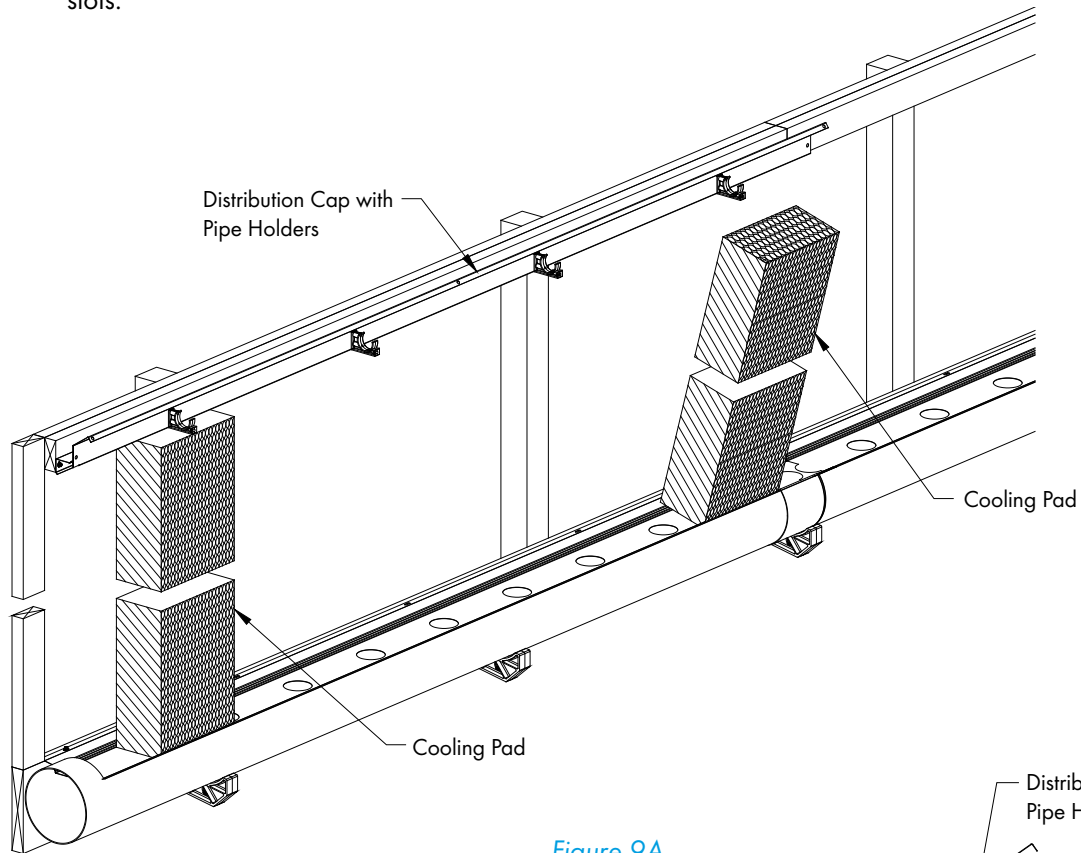

Figure 9A
After Distribution Cap is loosely secured to the Top Framing insert one piece of Cooling Pad at each end of the Distribution Cap. Use these pieces to adjust the height of the Distribution Cap. Distribution Cap should fit down tight to Cooling Pad. See Figure 9A and 9B. When the Distribution Cap is in place, make sure it is level, then tighten the (2) Polebarn Screws [E] and then install (3) Polebarn Screws [E] in the remaining slots.